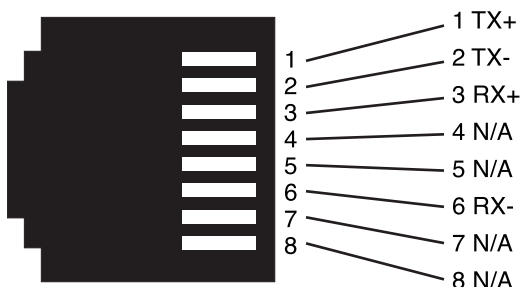

Figure 8. CL1101E/IP67 10/100Base-T RJ-45 Connector Pin-out
2. Terminate the cable with an RJ-45 connector. The RJ-45 *Ethernet* port is an Auto-MDIX 10/100Base-T that connects to a 10/100Base-T device or network. **Figure 8**